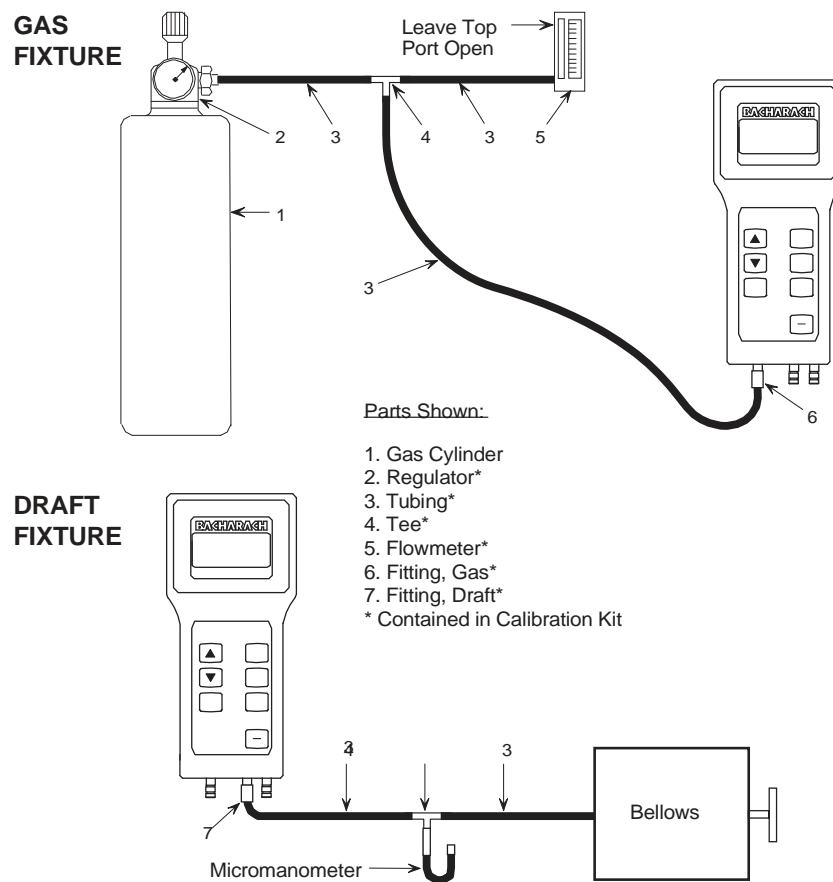

Figure 5-1. Calibration Fixtures
Assemble the appropriate fixture shown in Figure 5-1 as required by the calibration procedure being performed.
3. Using the Gas Fixture shown in Figure 5-1, attach the Nitric Oxide calibration-gas cylinder to the analyzer's GAS inlet.